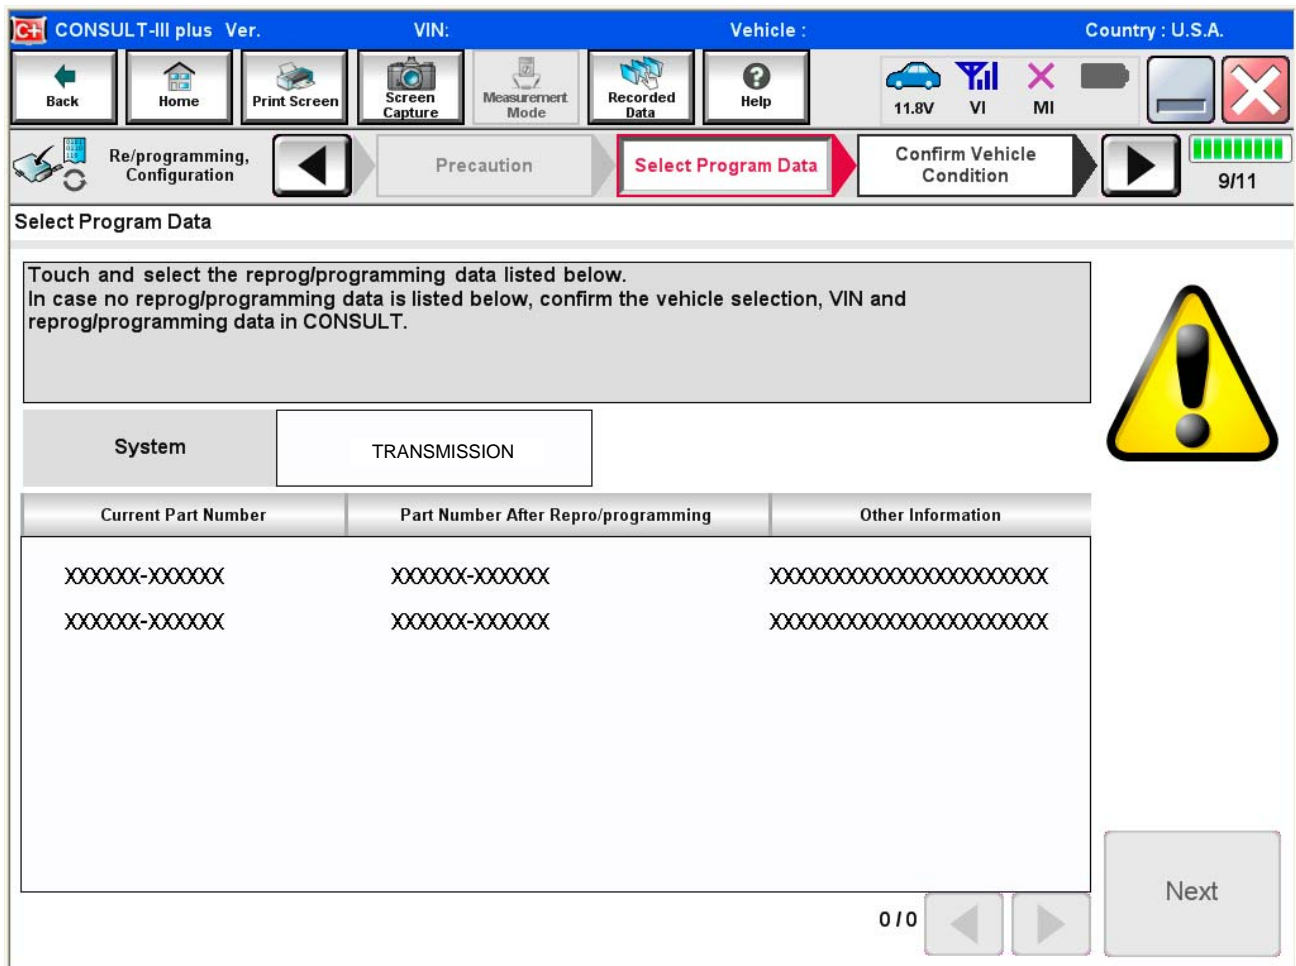

Figure 15
- In this case, the screen in Figure 15 displays.